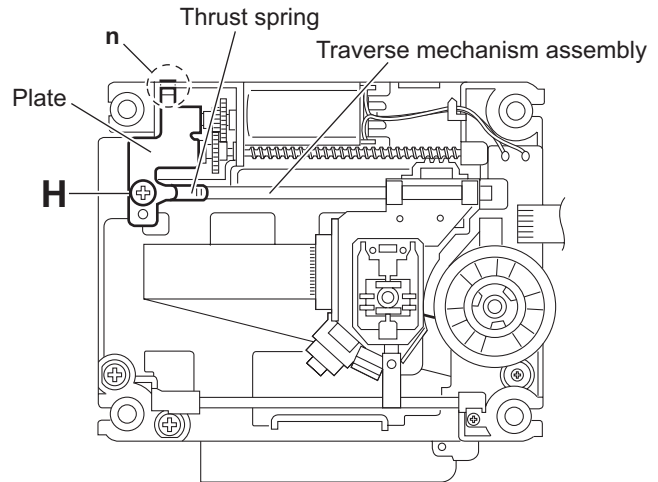

Fig.13
3.2.9 Removing the feed motor (See Figs.13 to 15)
- From the top side of the traverse mechanism assembly, remove the screw **H** attaching the plate and thrust spring. (See Fig.13.)
- Remove the plate from the joint **n** of the feed holder and take out the plate with the thrust spring. (See Fig.13.)